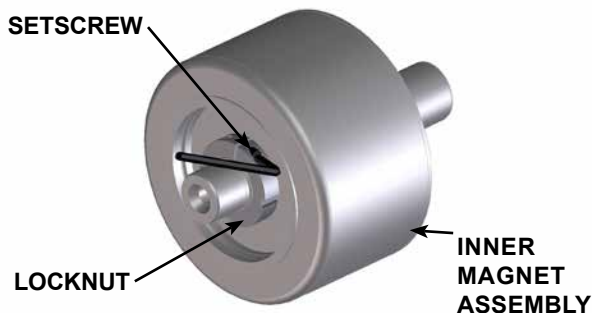

FIGURE 8
9. Visually inspect the outer magnets from the end of the bracket. If removal is necessary, separate the bracket from the motor. Remove the locknut (1), lockwasher (2) and outer bearing spacer collar (4) from the shaft. Slide the outer magnet assembly out of the bracket. Inspect the magnet assembly for damage or wear; replace if needed. If further disassembly of the bracket is required, see **“Disassembly / Assembly of Bracket Bearings”**, page 6.
10. Remove the socket head capscrews (54) from the canister (59). If the canister was not drained in Step 1, it will contain liquid. Use care when removing the canister from the pump by pulling it straight off. Inspect the canister bushing (64) for wear. If the canister bushing needs to be replaced, see **“Installation of Bushings”** on page 7.
11. Do not remove the O-ring from the plate adaptor (67) / canister unless it is bad, especially if it is PTFE (derivative) encapsulated. If a new O-ring is required, See **“Pump Assembly”** on page 7.
12. Insert a brass bar into the rotor (36) through a port between two rotor teeth and remove the split locknut (66), see **Figure 8**. Slide the inner magnet assembly off of the shaft. Make sure the outer thrust washer (60) does not come off with the inner magnet assembly. If the thrust washer hits the shaft key (62) it may crack or break. Do not forget this is a very strong magnet. Inspect the magnet assembly for damage or wear; replace if needed. If further disassembly is required, proceed to the next step.